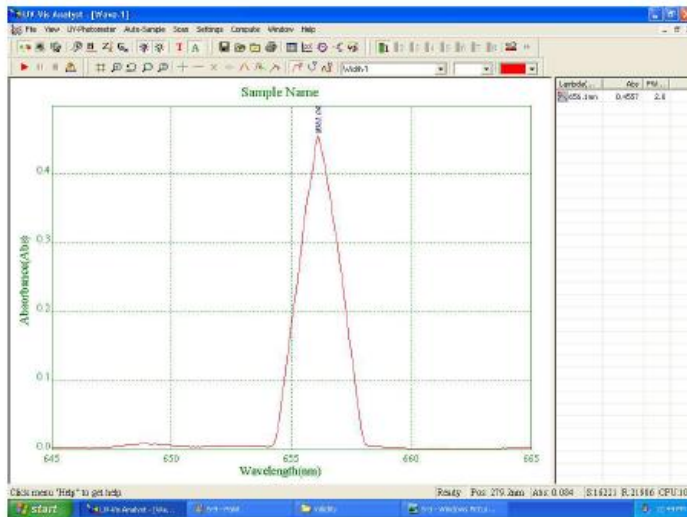

Fig. 5-11
4. click scan → service → spectrum slitwidth on the menu, it will scan from 665nm to 645nm. Click , the peak and the spectrum slitwidth value list in the data table (Fig 5-11).